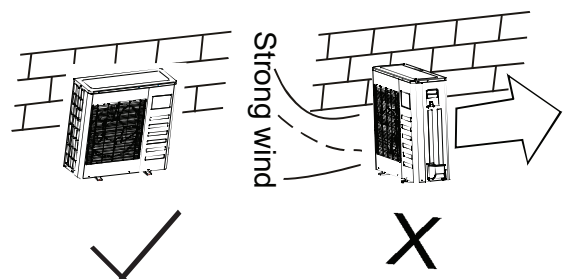

Fig. 8-1
- For installations prone or exposed to strong prevailing winds or breezes such as coastal areas, please ensure that the unit is sited appropriately, by placing it lengthwise along the wall to reduce any negative impact on the condenser fans (*Refer Fig. 8-1*)